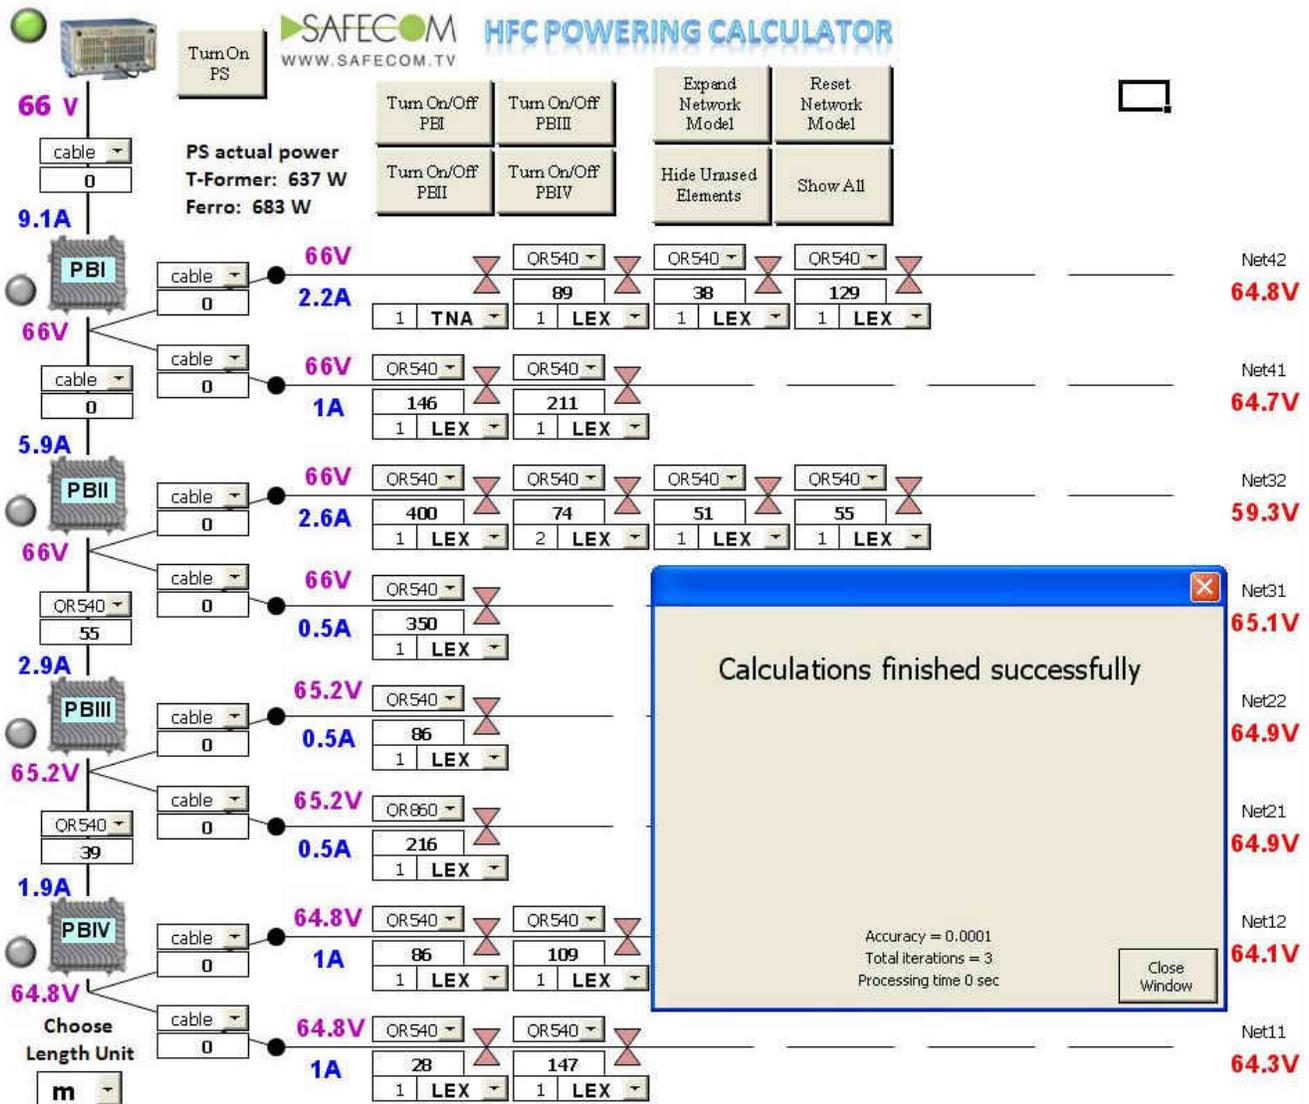

Fig.17 Results for Local PS calculation
7. Press **Turn On PS** button to calculate network powered by the local PS. The results are shown in Fig.17. Note the pop-up window message.